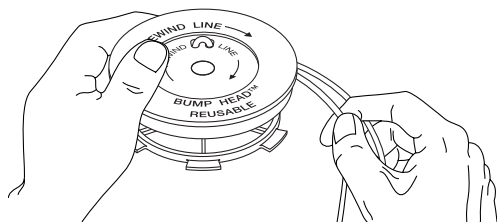

FIGURE 17
- Wind the lines in tight even layers onto the reel, Figure 17. Wind the line in the direction indicated on the inner reel. Place your index finger between the two lines to stop the lines from overlapping. Do not overlap the ends of the line.